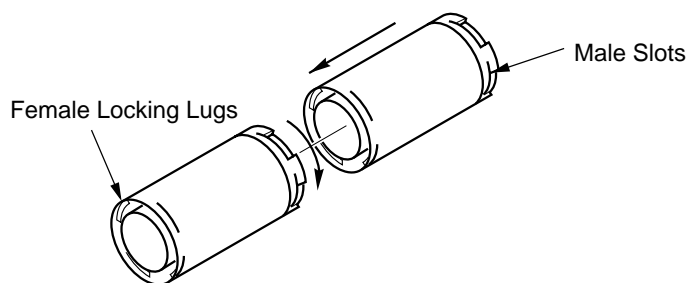

Figure 8 - Vent Pipe Connections
Twist-Lock Procedure: The female ends of the pipes have locking lugs (indentations). These lugs will slide straight into matching slots on the male ends of adjacent pipes. Push pipe sections together and twist one section clockwise approximately one-quarter turn until the sections are fully locked (see Figure 8).
2. Assemble the desired lengths of pipe and elbows necessary to reach from the fireplace flue up through the firestop. Be sure all pipe and elbow connections are fully twist-locked (see Figure 8, page 8).